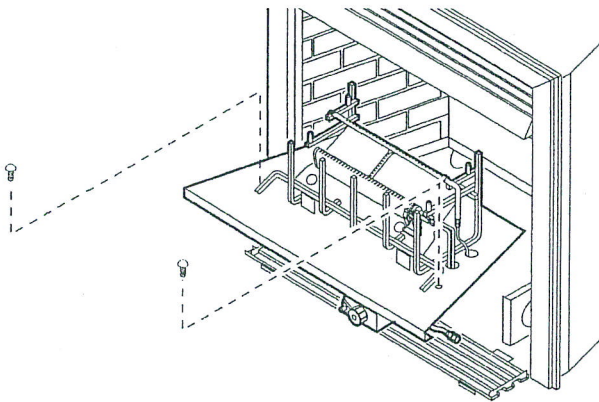

Figure 6
- To remove the grate and base assembly, take out five (5) screws as shown in *Figure 6*.